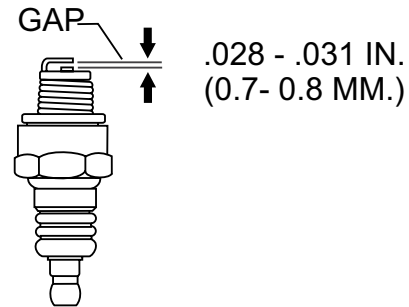

Figure 25. Spark Plug Gap
1. Remove and clean spark plug (Figure 25) with a wire brush if it is to be reused. Discard spark plug if the insulator is cracked or chipped.